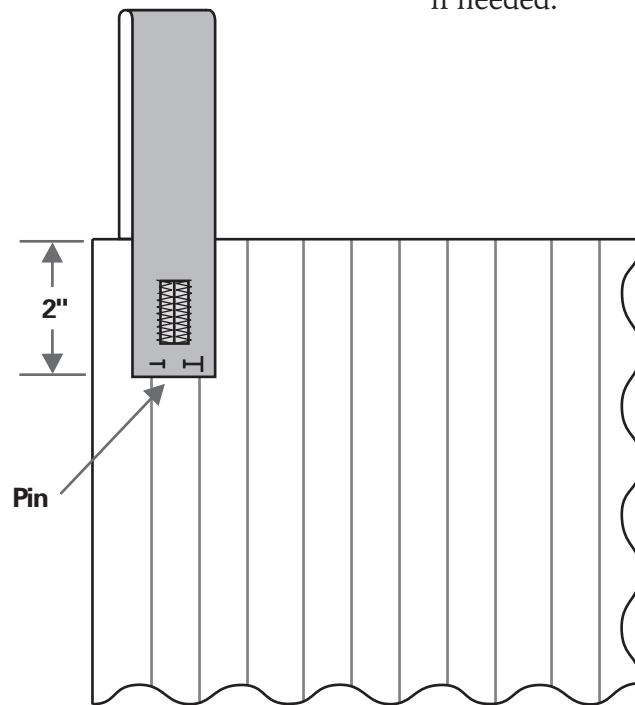

Fig. 16-6
9. Fold the tabs down 2 inches (5 cm) to overlap the panel upper edge and pin in place. Make sure the lower edges of the tabs are even across each panel. (Fig. 16-6)